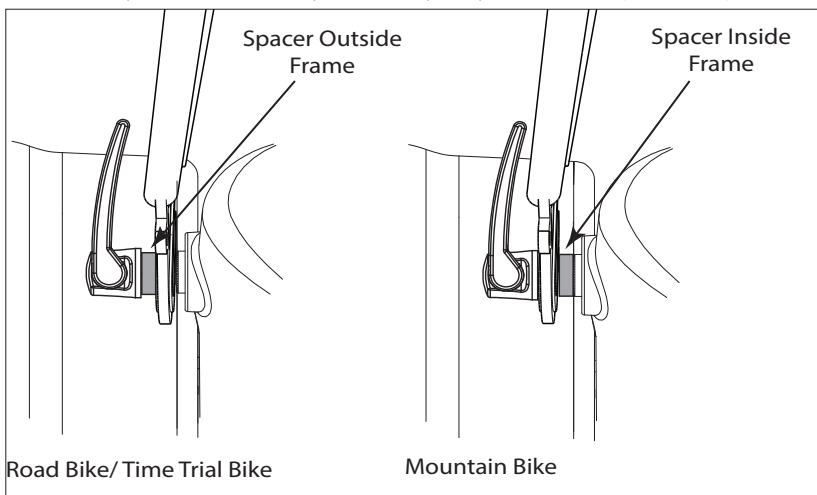

FIGURE 2.1
3. Loosen the quick-release axle on the REVOLUTION and locate the axle spacer on the fan side of the axle. Be sure to position the spacer properly based on the type of bicycle you are using. (See Figure 2.1)